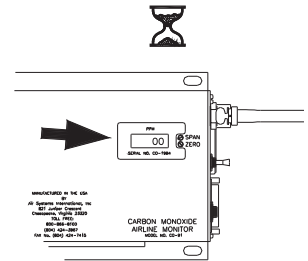

Figure 8
8. Allow digital readout to stabilize approximately 15-30 seconds (Figure 8).